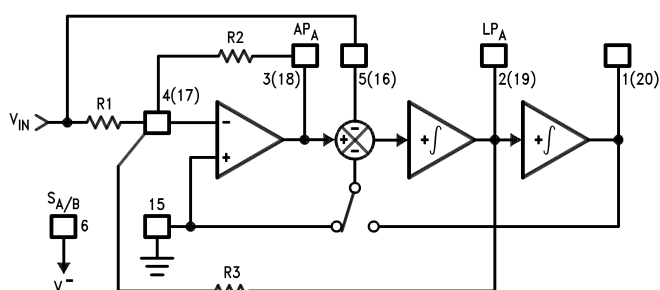

Figure 50. MODE 6c
8.4.1.11 MODE 6c: Single-Pole, AP, LP Filter (See Figure 50)
Also, one output can have a reasonable small voltage on it while another is saturated. This is most likely for a circuit such as the notch in Mode 1 (Figure 40). The notch output will be very small at f_0 , so it might appear safe to apply a large signal to the input. However, the bandpass will have its maximum gain at f_0 and can clip if overdriven. If one output clips, the performance at the other outputs will be degraded, so avoid overdriving any filter section, even ones whose outputs are not being directly used. Accompanying Figure 40 through Figure 50 are equations labeled *circuit dynamics*, which relate the Q and the gains at the various outputs. These should be consulted to determine peak circuit gains and maximum allowable signals for a given application.